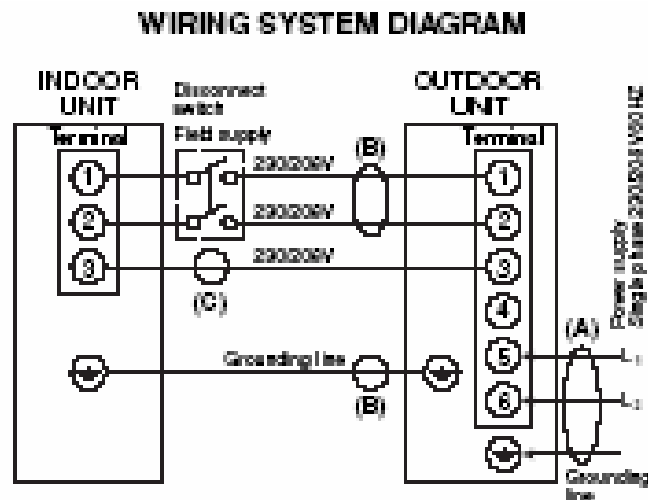

Figure 1
- These wires must be landed terminal 1 to 1, 2 to 2 and 3 to 3 from the outdoor to the indoor unit's wire termination strip (see Figure 1).